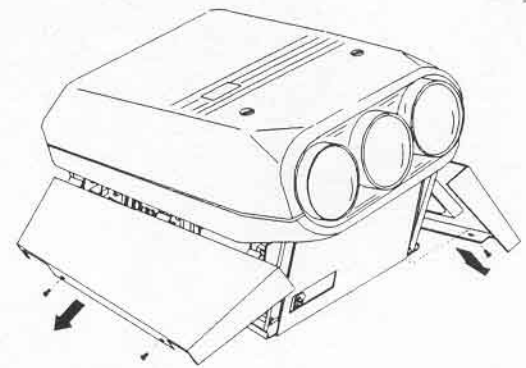

Figure 5-4. Side Panel Removal
- b) For each side panel, remove the 2 hex head screws which secure the side panel to the projector frame as shown in Figure 5-4.